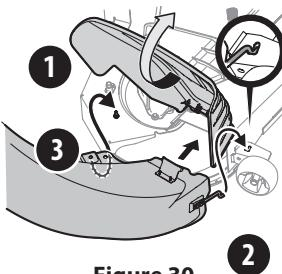

Figure 30
2. Raise the chute deflector (1) on the deck and hold it while you position the discharge chute over the chute opening.
3. Insert the end of the discharge chute elbow (2) into the hole provided in the deck wheel mount as shown in the inset of Figure 30.
4. Pivot the discharge chute rearward until the hole in the discharge chute elbow aligns with the pin on the deck. Move the discharge elbow down onto that pin as shown in (3) of Figure 30.